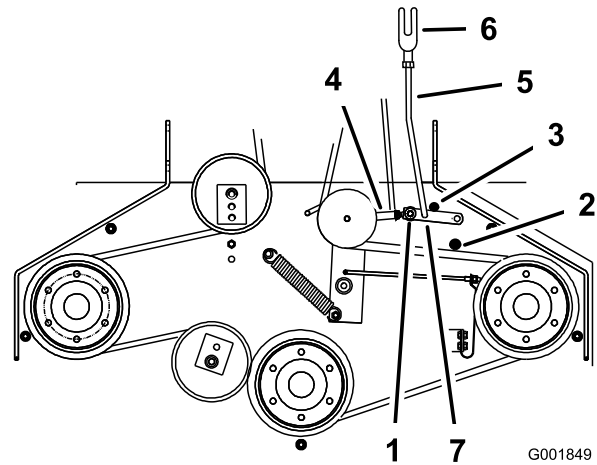

Figure 48
8. To adjust the assist arm link, remove the hairpin cotter pin from the assist arm (Figure 48).
11. Install the assist arm link into the assist arm and secure it with the hairpin cotter pin (Figure 48).